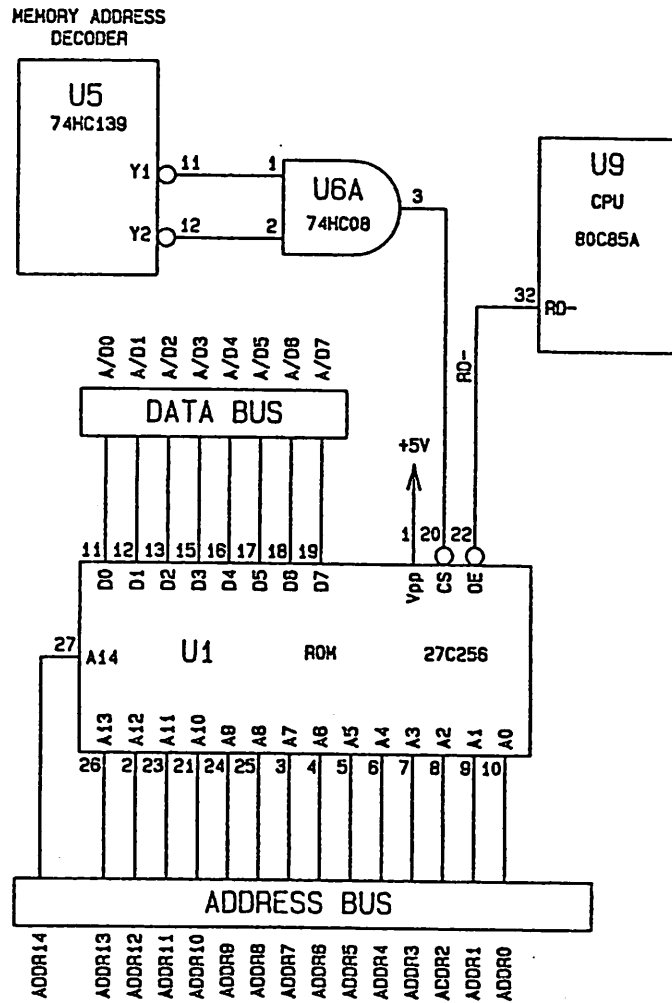

Figure 3-8. Read Only Memory.
3.3.1 Read Only Memory (ROM, U1, figure 3-8)